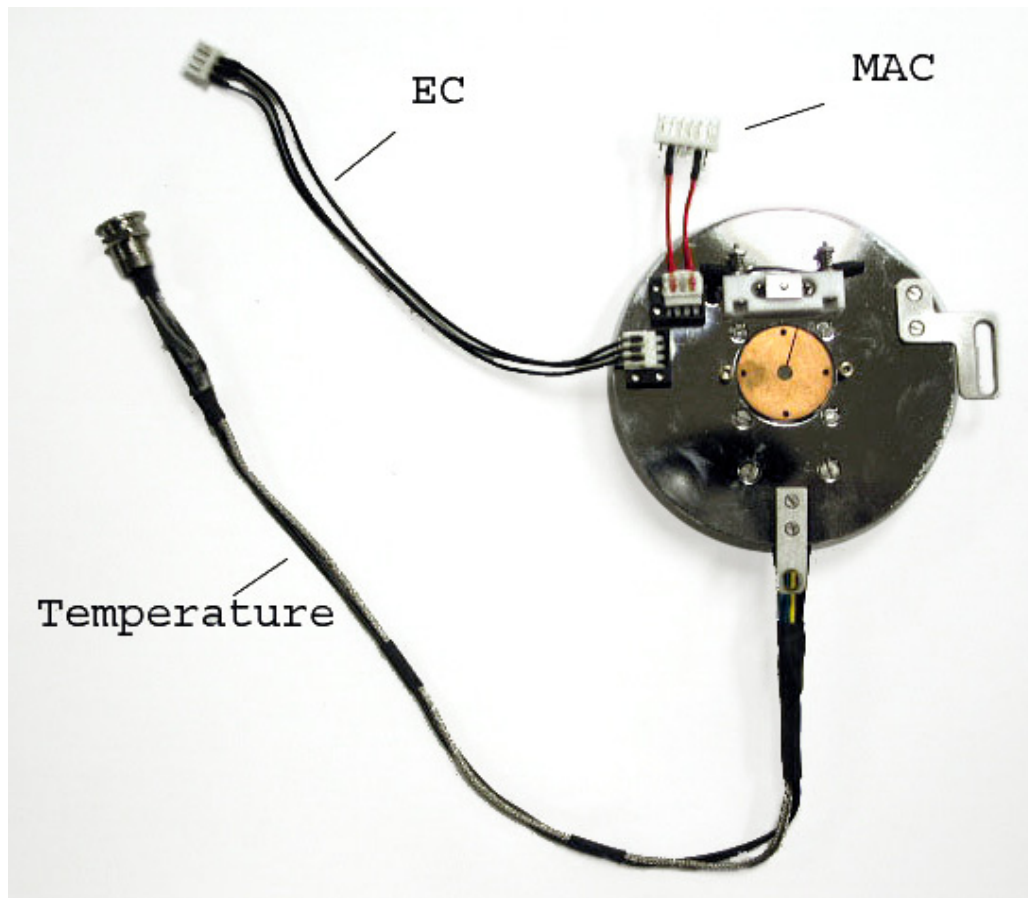

Figure 10 (Top view of cold MAC sample plate connections)
4. Insert the flat 6-pin female connector of the short flexible cable into the 6 pin male connector on the back of the sample stage. In order to use a cooled stage with MAC mode operation, see Figure 10 below for cold MAC sample stage connections.